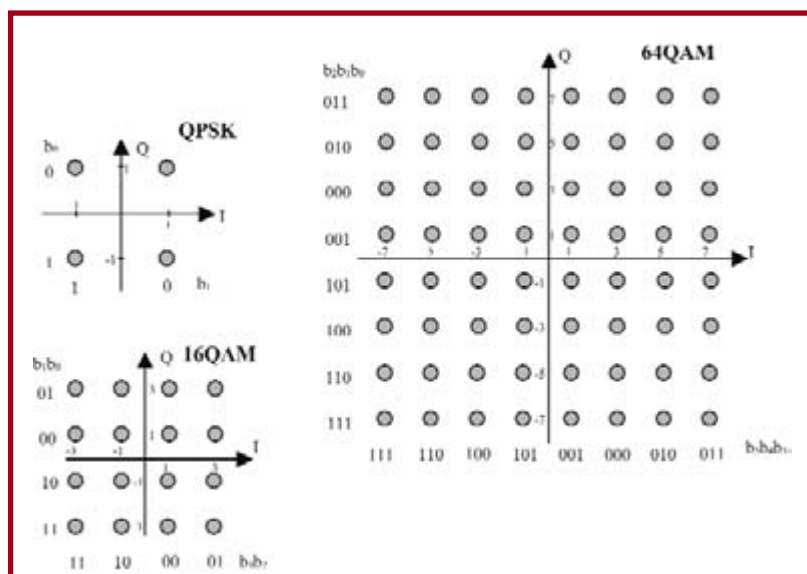

Figure 2. Different modulation methods (QPSK up to 64QAM) used in 802.16e.
The maximum distance from a base station (BS) and a user terminal (Service Station, SS) in 802.16 is in the range of 10 kilometres. This relatively large maximum cell size and the support for NLOS (non-line-of-sight) connections dictates that the modulation method needs to be flexible depending on the quality of the link. The 802.16e standard for example allows any choice between QPSK, 16QAM and 64QAM modulation, see **Figure 1** for the WiMAX fall-back scheme and **Figure 2** for the operation of the three different modulation methods. Modulation type can be changed per user